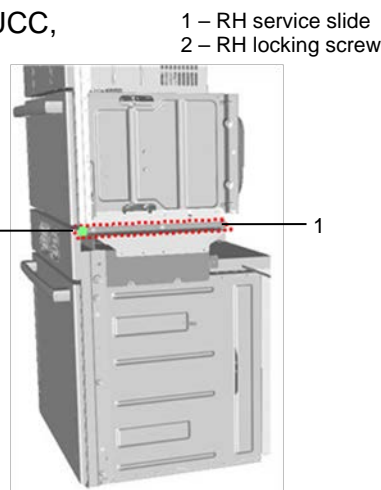

Figure 6 Location of RH rail locking screw on combo oven
3. Remove the locking screw from the right and left service slides (see Figure 6).